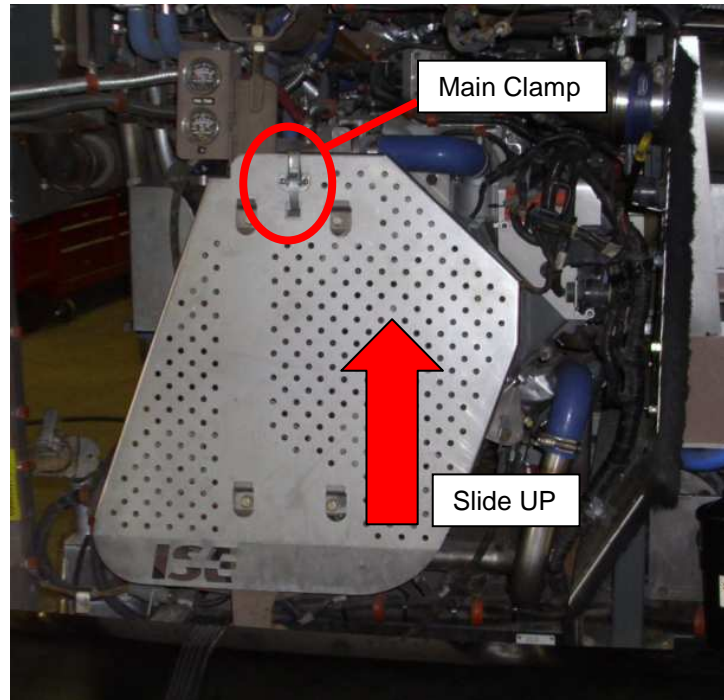

Figure 3: Belt Guard Reference
- c. Remove the belt guard by unclamping main clamp and sliding guard up. See Fig 3.